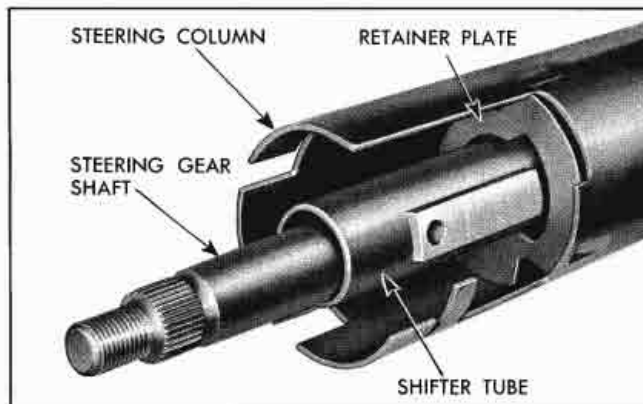

Fig. 7-22 Rear Retainer Plate
19. Remove rear retainer plate from shifter tube (Fig. 7-22).
12. Install rear retainer plate over upper end of shifter tube (Fig. 7-22).